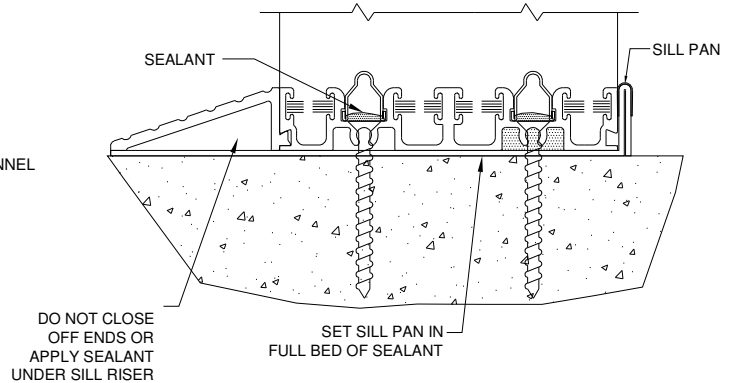

Figure 21:
- After installing the anchor, apply sealant over the anchor screw head (Figure 21).
- Attach sill to the sillpan with a compatible sealant (Figure 20). Do not place sealant in or next to weep slots or weep holes cut (Figure 21). Sealant that blocks weep slots will prevent sill from weeping.